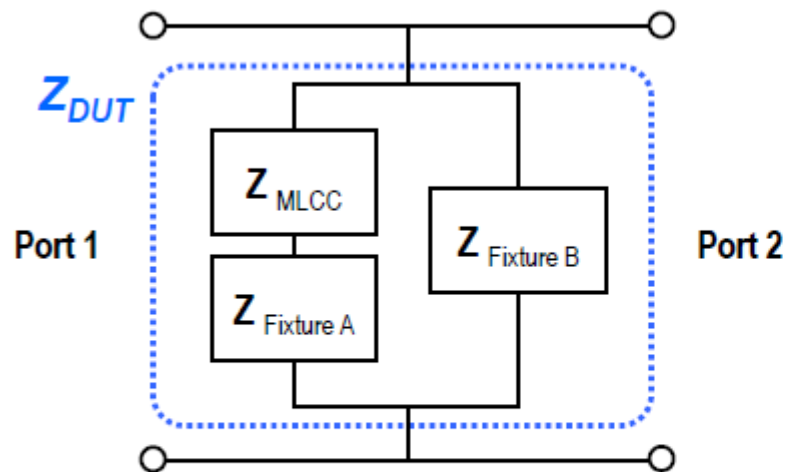

Fig. 2 Block diagram for DUT
- Block diagram for DUT (Device Under Test) is shown in Fig.2 and the impedance of DUT can be expressed as the formula below.